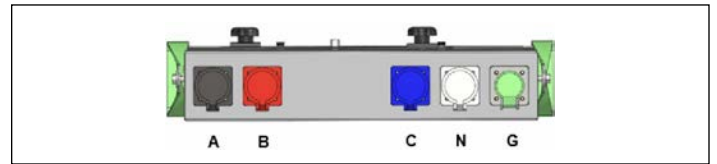

Figure 8. Bottom of unit
7. Connect the load bank cables ABCNG to the Cam-Loks™ on the LBTOB (Figure 8).